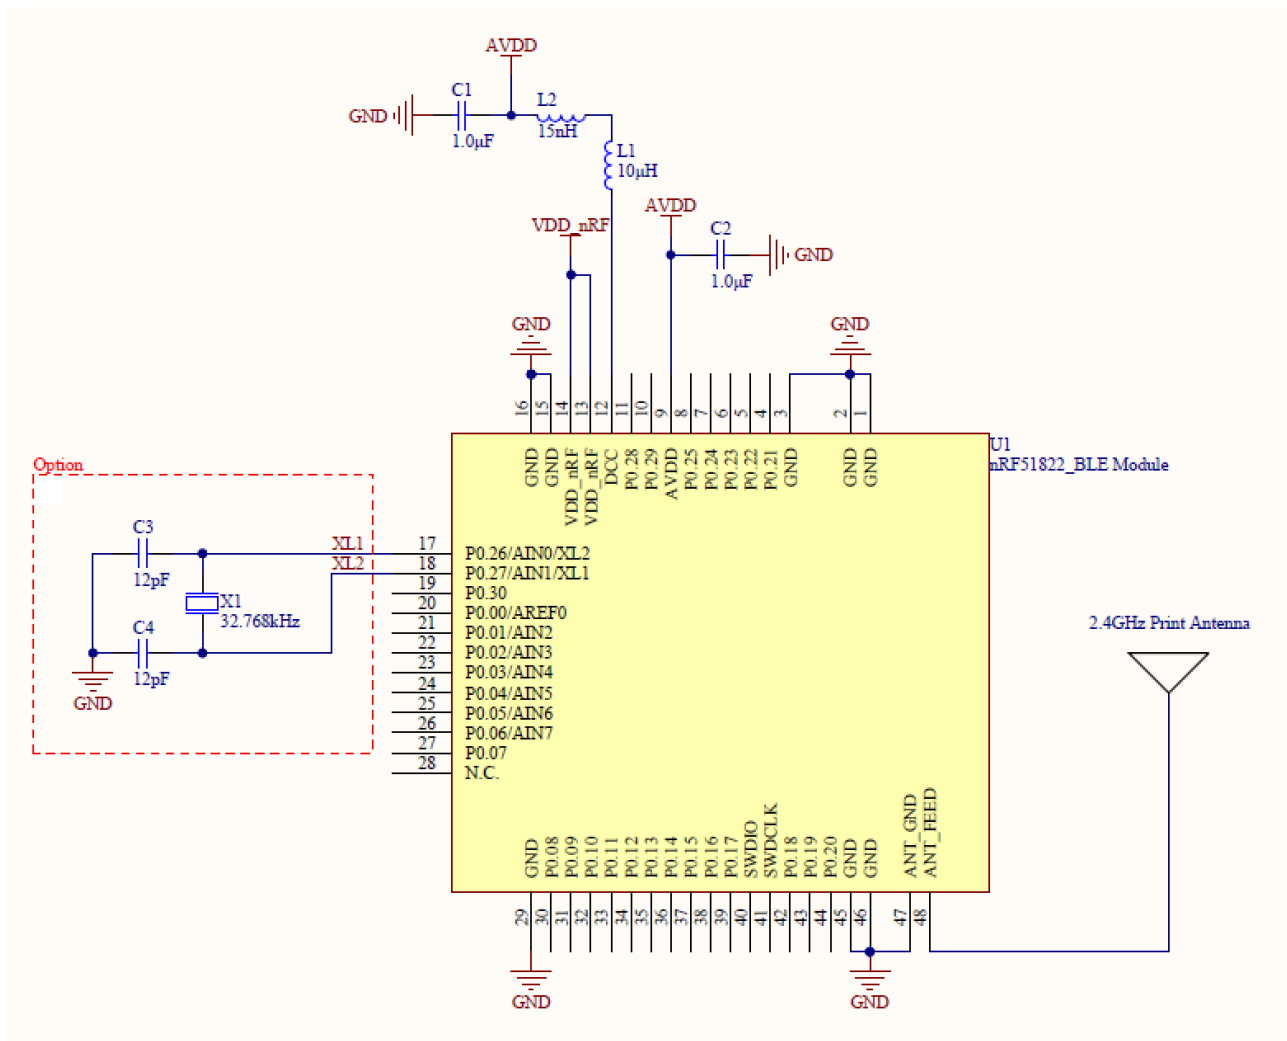

Figure 11 : Schematic with internal DC/DC converter
4. FDCDC will vary depending on VDD and internal radio current consumption (IDD). Please refer to the nRF51 Series Reference Manual, v3.0 or later, for a method to calculate IDD,DCDC. See Figure 11 on page 51 for a DC/DC conversion factor chart.